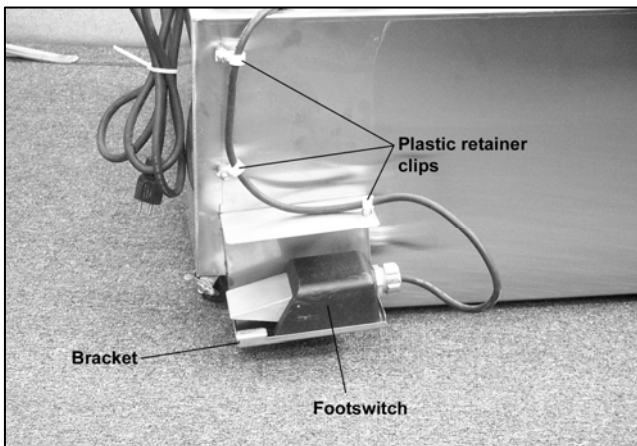

Figure 1-2. Footswitch.
- a. Remove the footswitch from the bracket (See Figure 1-2).
- b. Detach the cord from the plastic retainer clips (See Figure 1-2).